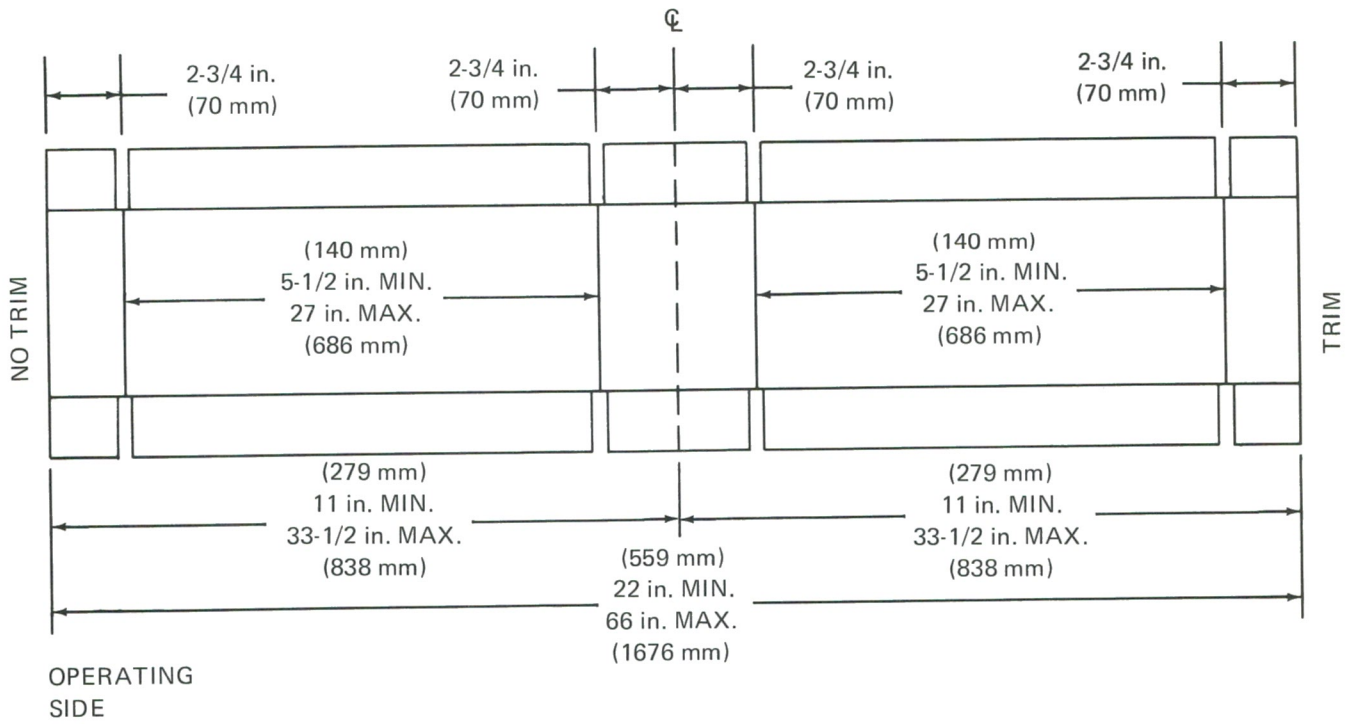

FIGURE 9-7. 2-3/4 in. (70 mm) END PANEL WITHOUT TRIM
c. 2-3/4 in. (70 mm) End Panel Without Trim (Figure 9-7)